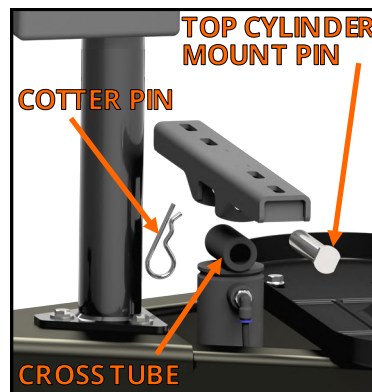

FIGURE D2: View of the cylinder above the A-frame.
2. **Position the hydraulic cylinder.** Carefully lift the hydraulic cylinder. Move the cylinder up under the trailer A-frame so the hydraulic hose passes under the driver side frame rail. With the cross tube end of the cylinder up, pass the cylinder between the two rails of the A-frame. Pin the cylinder to the top cylinder mount and secure with the provided cotter pin, **as shown in Figures D2 and D3**. Rest the top cylinder mount on the frame.